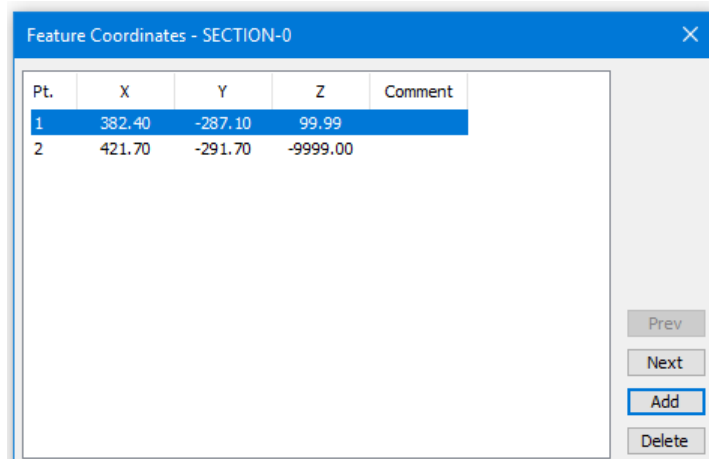

Figure 8-14: Feature Coordinates - Section-0 Dialogue Box
17. Do **not** press <Enter> after the last coordinate. Press the *Update List* button. Press *OK* provided the *Feature Coordinates - Section -0* dialogue box looks like the Figure 8-14.